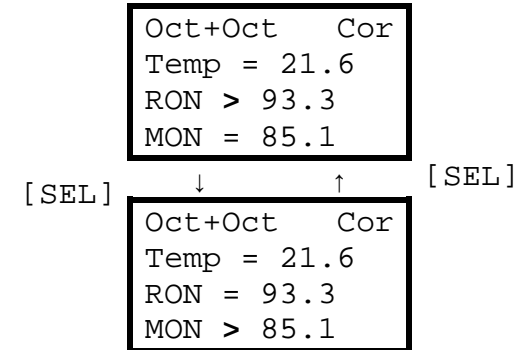

Figure 4. Selection of parameter to be corrected.
3.6.4. By means of [S] button choose symbol opposite the corresponding parameter «>», «<», «+», «-» or «Z». Example of indicator readings when performing these operations is presented in Figure 4.